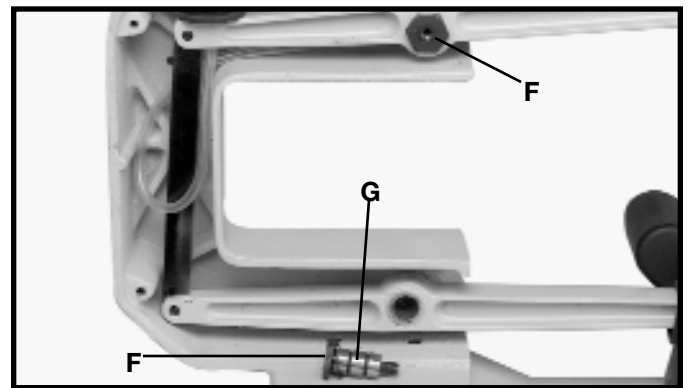

Fig. 42
5. Remove two pivot bolts (F) Fig. 42.
6. Thoroughly clean grease from shafts (G) Fig. 42, of both pivot bolts (F) and lubricate shafts (G) with a few drops of light machine oil.
7. Reassemble two pivot bolts (F) Fig. 42, to machine.